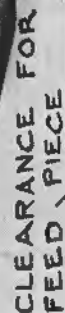

Fig. 3.—The barrel group
14. The barrel group (see Fig 3).—To strip it:—